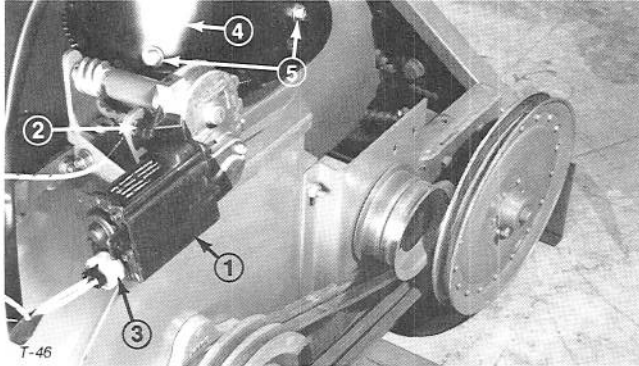

Figure 1
1. Install chute to chute swivel ring and secure with three carriage bolts, flat washers and locknuts (Fig. 1). Install chute wire inside chute and secure to chute with two pushnuts.
2. Remove top flange screw for chute drive motor, insert through eyelet of single wire of wire harness and re-install (Fig. 1).
3. Install female connectors of wire harness to spade terminals of motor (Fig. 1).